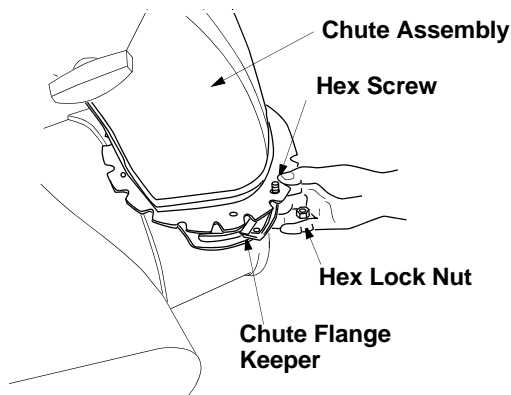

Figure 3
- Insert hex cap screws up through chute flange keeper and chute assembly as shown in Figure 3. Secure with hex flange locknuts. Tighten with two 7/16" wrenches. Do not over tighten.